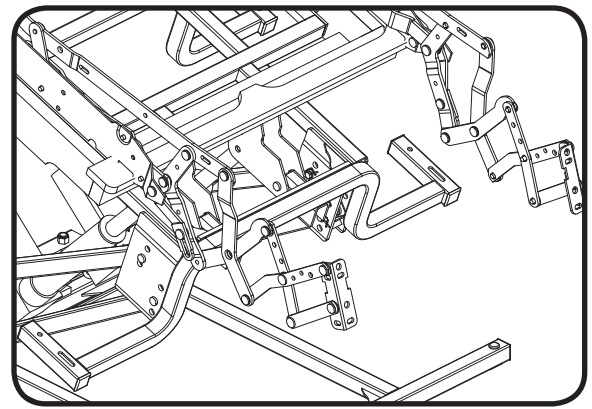

Figure 3.4 Scissor Mechanism
**Scissor Mechanisms:** Extend or retract to take the riser recliner through the various stages of recline (**Fig. 3.4**).